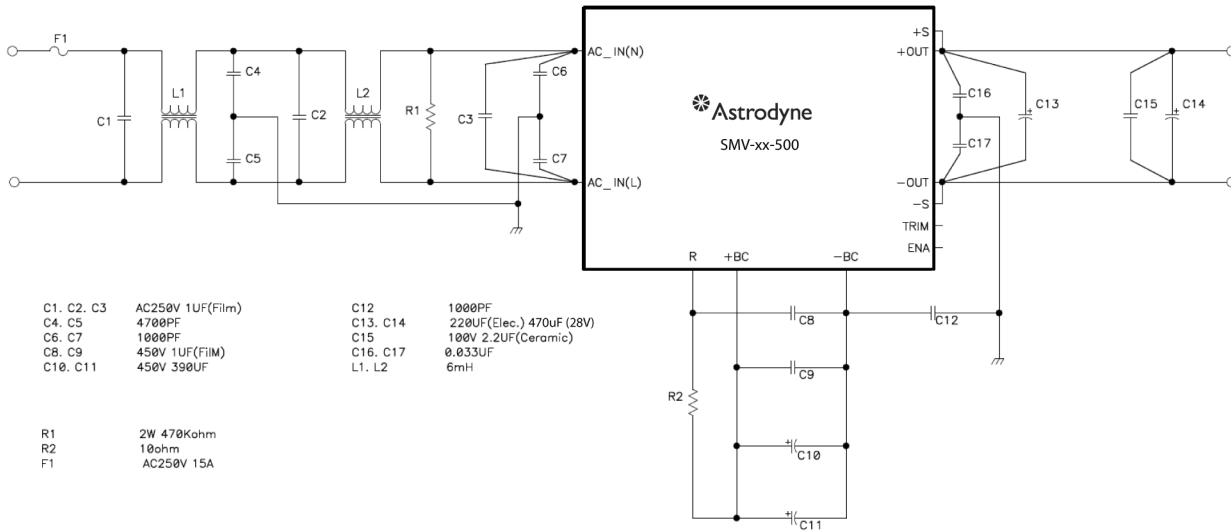

Fig. 3 Application Circuit.
3. Turn on @ 265Vin, External Components are needed for operation Refer to Fig. 3 for application circuit.